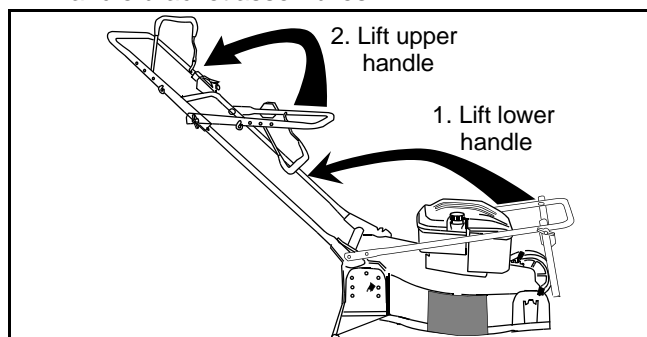

Figure 2
- Raise the lower handle, as shown in Figure 2 (Step 1), until it snaps into place. Lift up and pull back on the upper handle to raise the handle into the operating position (Step 2). See Figure 2. Make certain the lower handle is seated securely into the handle bracket assemblies.